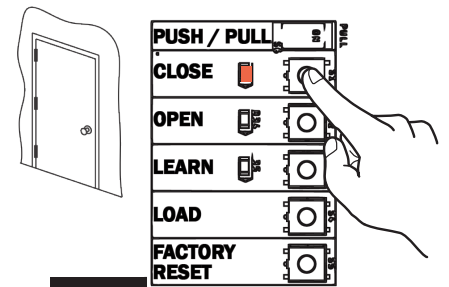

Figure 7
- The orange CLOSE LED will change from flashing to solid. (Figure 7)